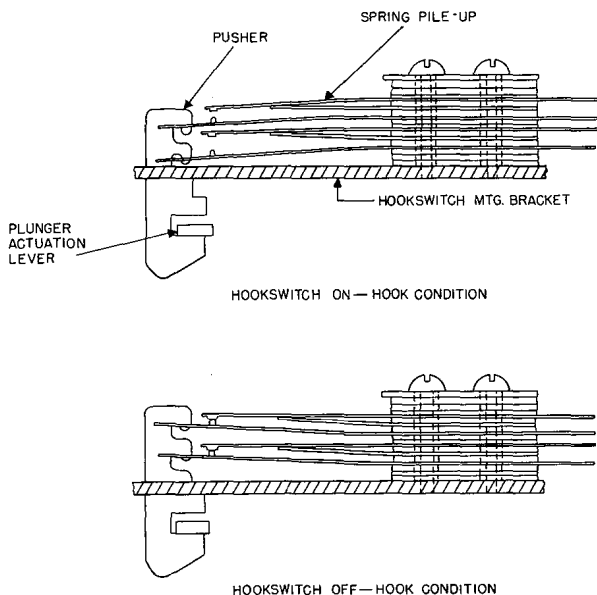

Figure 27. Hookswitch, Operated and Unoperated.
- b.** The position of the contact springs both in the operated and unoperated position is shown in figure 27.